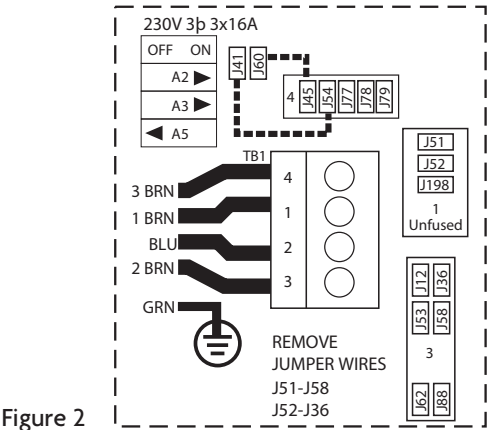

Figure 2
OPTIONAL HOOKUP – 3 SERVICE (Figure 2)
- 2. Only reinstall jumper wires as indicated by dotted lines in Figure 2.